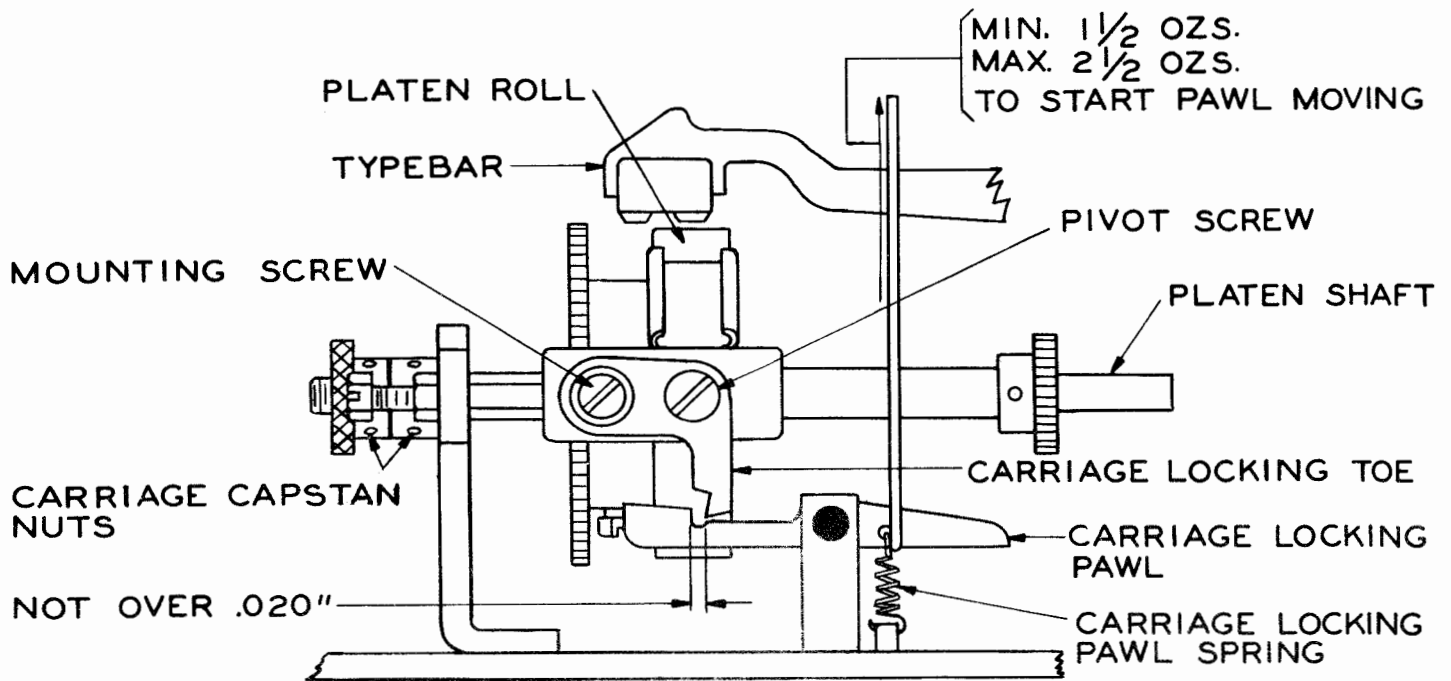

Figure 16
To Adjust: Position the locking pawl post by means of its locknut. (See Figure 16.)
To Adjust: Loosen the carriage-locking toe mounting screw and position the carriage locking toe (See Figure 16.)
- 2.32 Carriage Travel: On units equipped with an adjustable shift rocker, the carriage locking toe shall overtravel the locking-pawl notch by not more than 0.020 inch when the LTRS combination is set up and the main bail is in its highest position. (Pull upward on the bail to insure this.) Gauge by eye. (See Figure 16.)
- 2.35 Carriage Locking Pawl Spring tension shall be minimum 1-1/2 ounces, maximum 2-1/2 ounces measured when the carriage is held back far enough to have clearance between the carriage locking pawl and the carriage locking toe. (See Figure 16.)